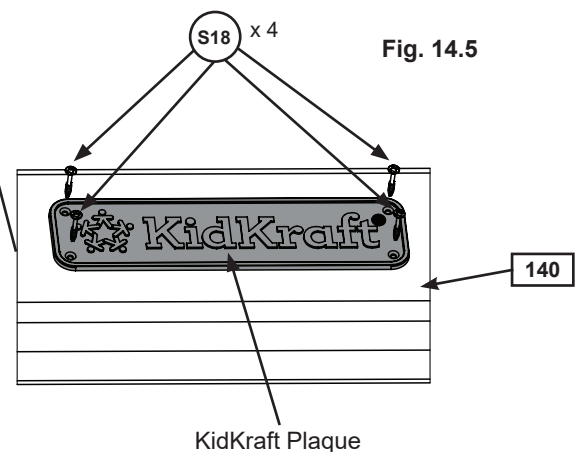

Fig. 14.5
D: Attach KidKraft Logo Plaque to centre of (140) Engineered SW Beam (over top of t-nut) using 4 (S18) #6 x 1" Wood Screws. (fig. 14.5)